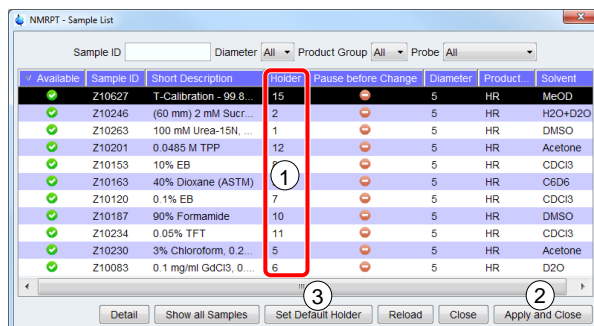

Figure 3-9: Set Default Holder in Sample List
- In Sample List dialog (Figure 3-9) click **Set Default Holder** (3) and place each sample in the sample changer position shown in **Holder** column (1). Click **Apply and Close** (2) when finished.